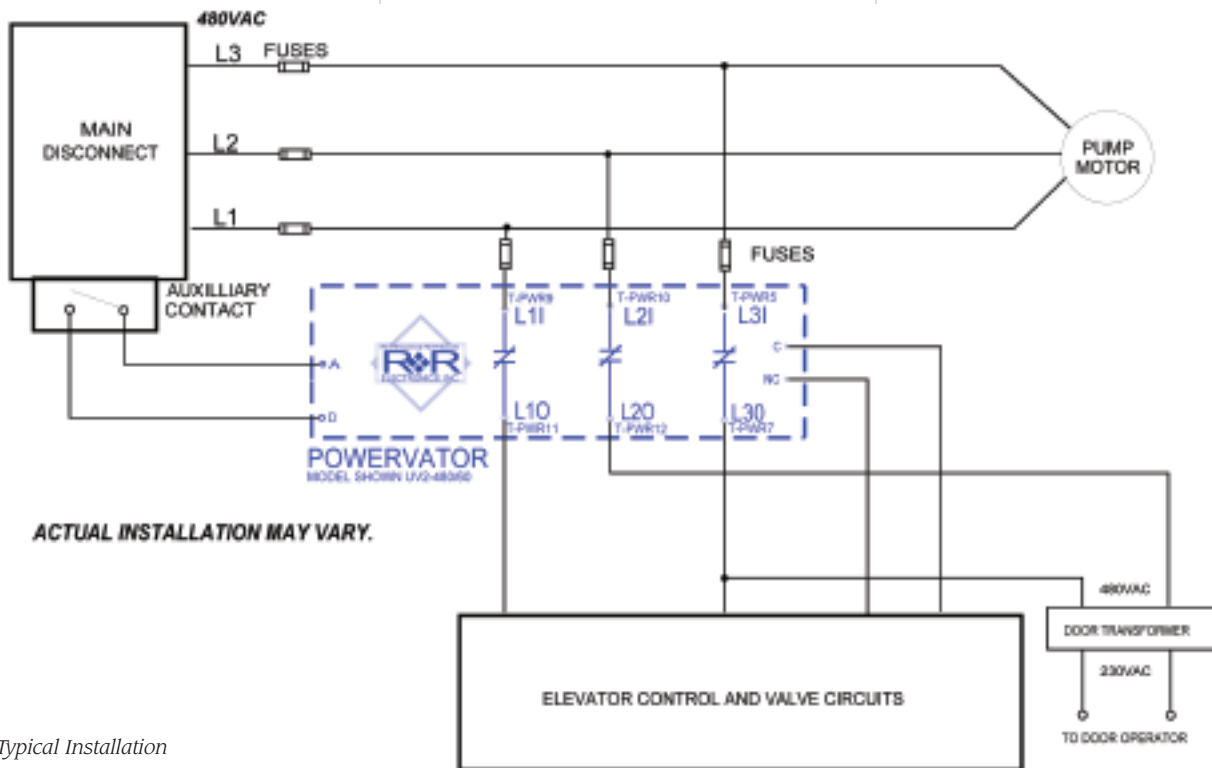

Figure 4: Typical Installation
Each Powervator is shipped with an application-specific connection diagram. Always refer to the specific connection diagram provided with the system when installing the unit. Figure 4 represents a typical 480-VAC installation, which will be used for the purposes of this article. Be certain to observe all aforementioned safety precautions before proceeding.
6. Wire the UV2 into the circuit so that terminals L1T-PWR9, L2T-PWR10 and L3T-PWR5 are connected to the output of the fuses, and L1O-T-PWR11 and L3O-T-PWR7 are feeding the elevator controller. Refer to Figure 4 for wiring details and to Figure 6 for the location of the T-PWR terminal block on the inverter board.
The safety-switch circuit ensures that the Powervator will not activate when the mainline power is purposely turned off. It should be used in conjunction with a disconnect switch that has a fourth pole. The safety switch will be wired as shown in Figure 4. Refer to Figure 6 for the location of the T-CTL terminal block on the inverter board. Connect terminal AT-CTL10 to one side of the fourth pole and terminal DT-CTL9 to the other side of the fourth pole. Verify that A and D are shorted when the disconnect switch is closed (on) and that there is no connection